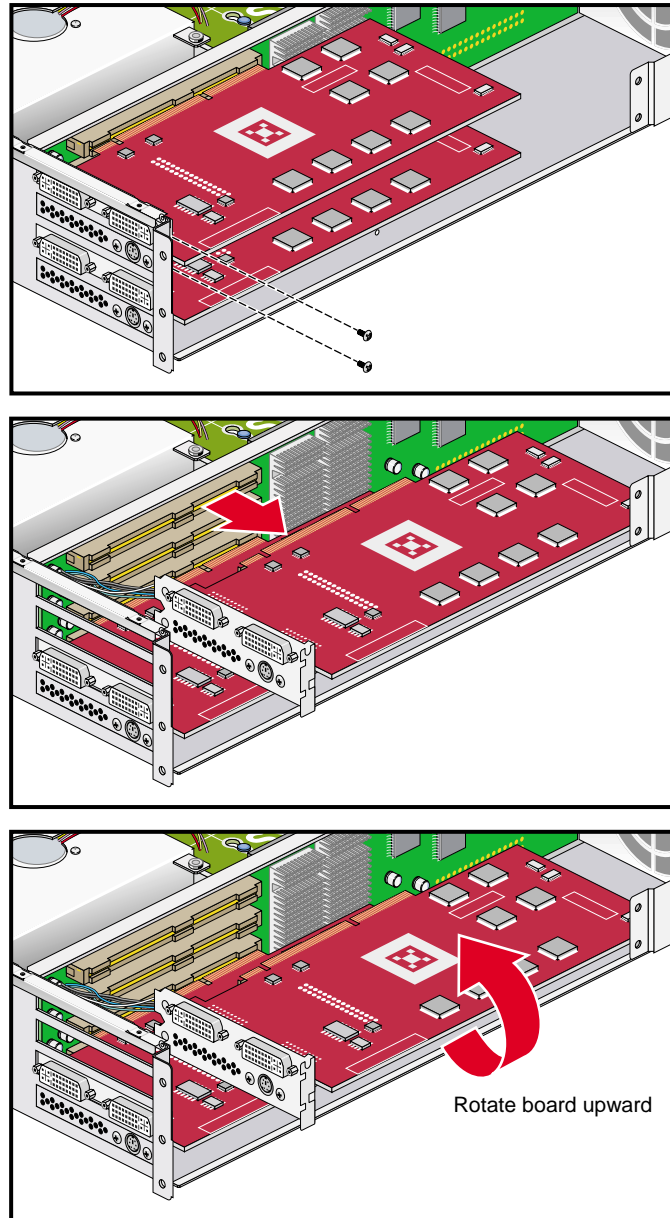

Figure 4-13 Remove XG2N Graphics Board Assembly
10. Undo and remove the two screws that hold the card to the back panel, as shown in Figure 4-13.